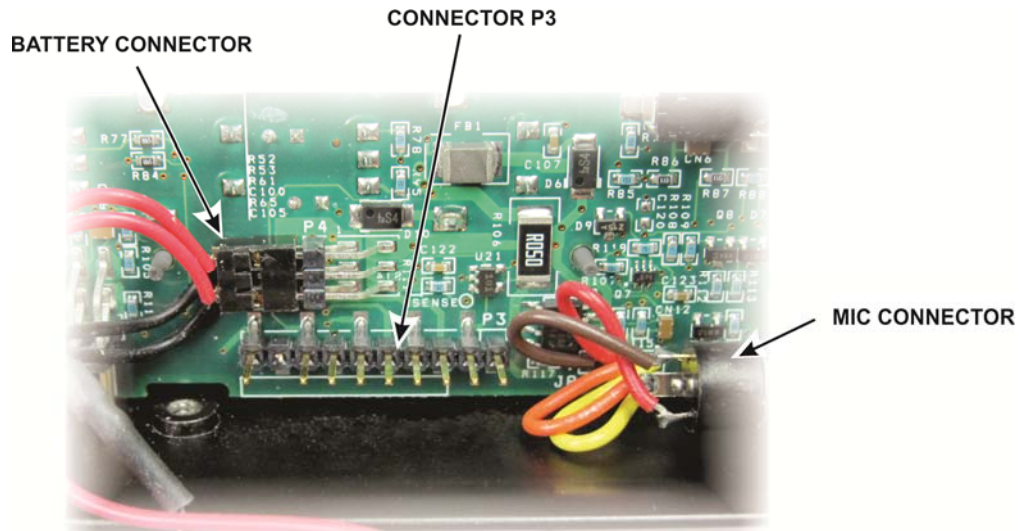

Figure 5. Connector P3 on the Control Panel Board.
□ Locate P3 on the control panel pc board. It is between the battery connector and the microphone jack on the end panel (see Figure 5). J2 on the KXBC3 will plug into this connector.